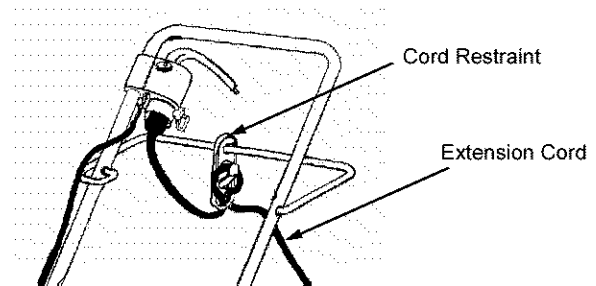

Figure 7
- Slip the loop through the slot on the bottom of the cord restraint, and up over the tab, to prevent disconnection from the motor/blade control during operation. See Figure 7.